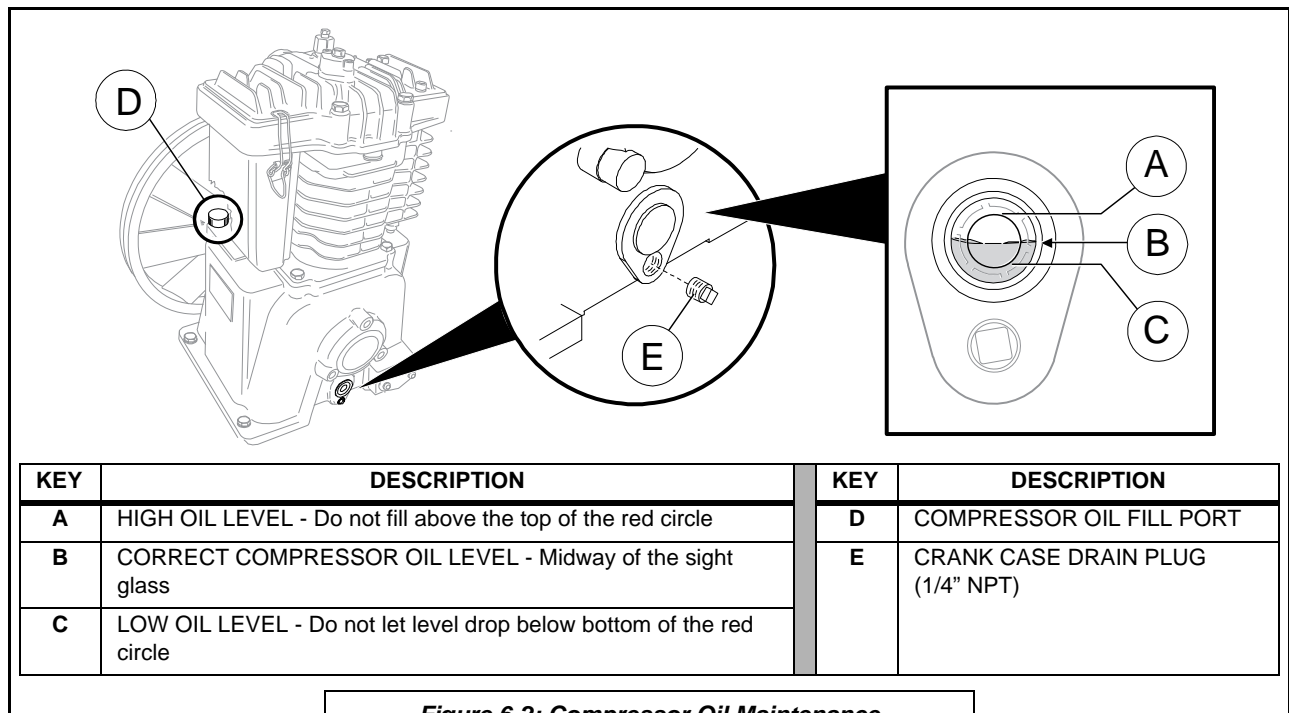

Figure 6-2: Compressor Oil Maintenance
Consult **Section 6.3, Maintenance Schedule Table** for compressor oil maintenance schedule, and refer to **Figure 6-2** and the following procedure to check the compressor oil.
- With the machine off, check the level of the oil in the sight glass as indicated in **Figure 6-2**.
- With the machine off, locate the crank case drain plug [E] as indicated in **Figure 6-2**.